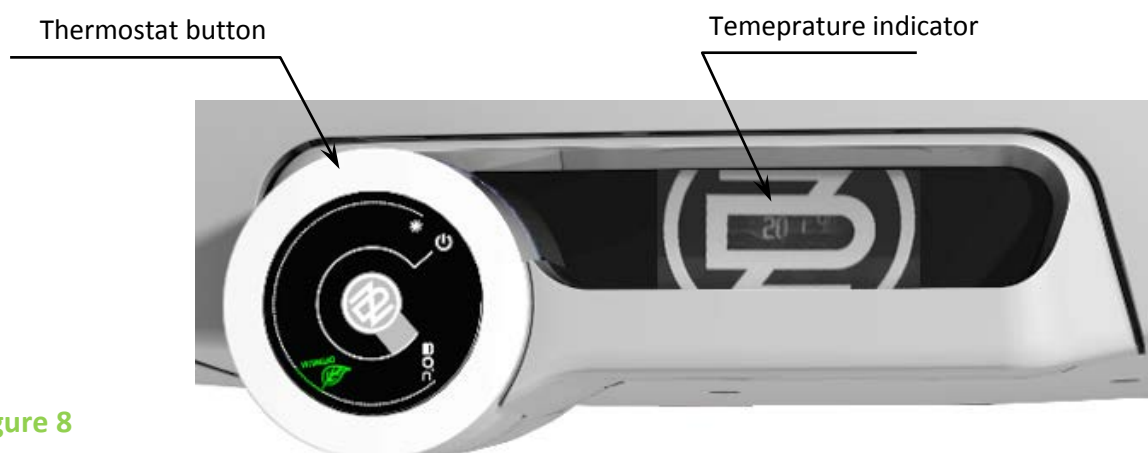

Figure 8
- The electric wiring scheme is attached to the water heater on the side of the electric installation guard (fig. 8)